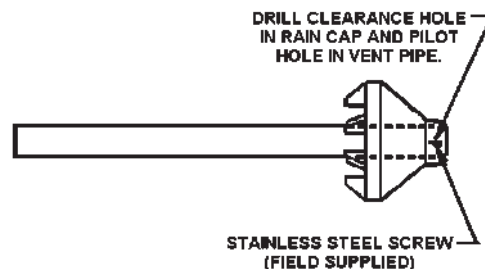

Figure: 26
- Cement rain cap to smaller diameter kit pipe, see Figure 26.
NOTE: Instead of cementing the smaller pipe to the rain cap, a field-supplied stainless steel screw may be used to secure the 2 components together when field disassembly is desired for cleaning, see Figure 26.
- Cement the rain cap to the smaller diameter kit pipe, see "Figure: 26".
NOTE: Instead of cementing the smaller pipe to the rain cap, a field-supplied stainless steel screw may be used to secure the 2 components together when field disassembly is desired for cleaning, see "Figure: 26".